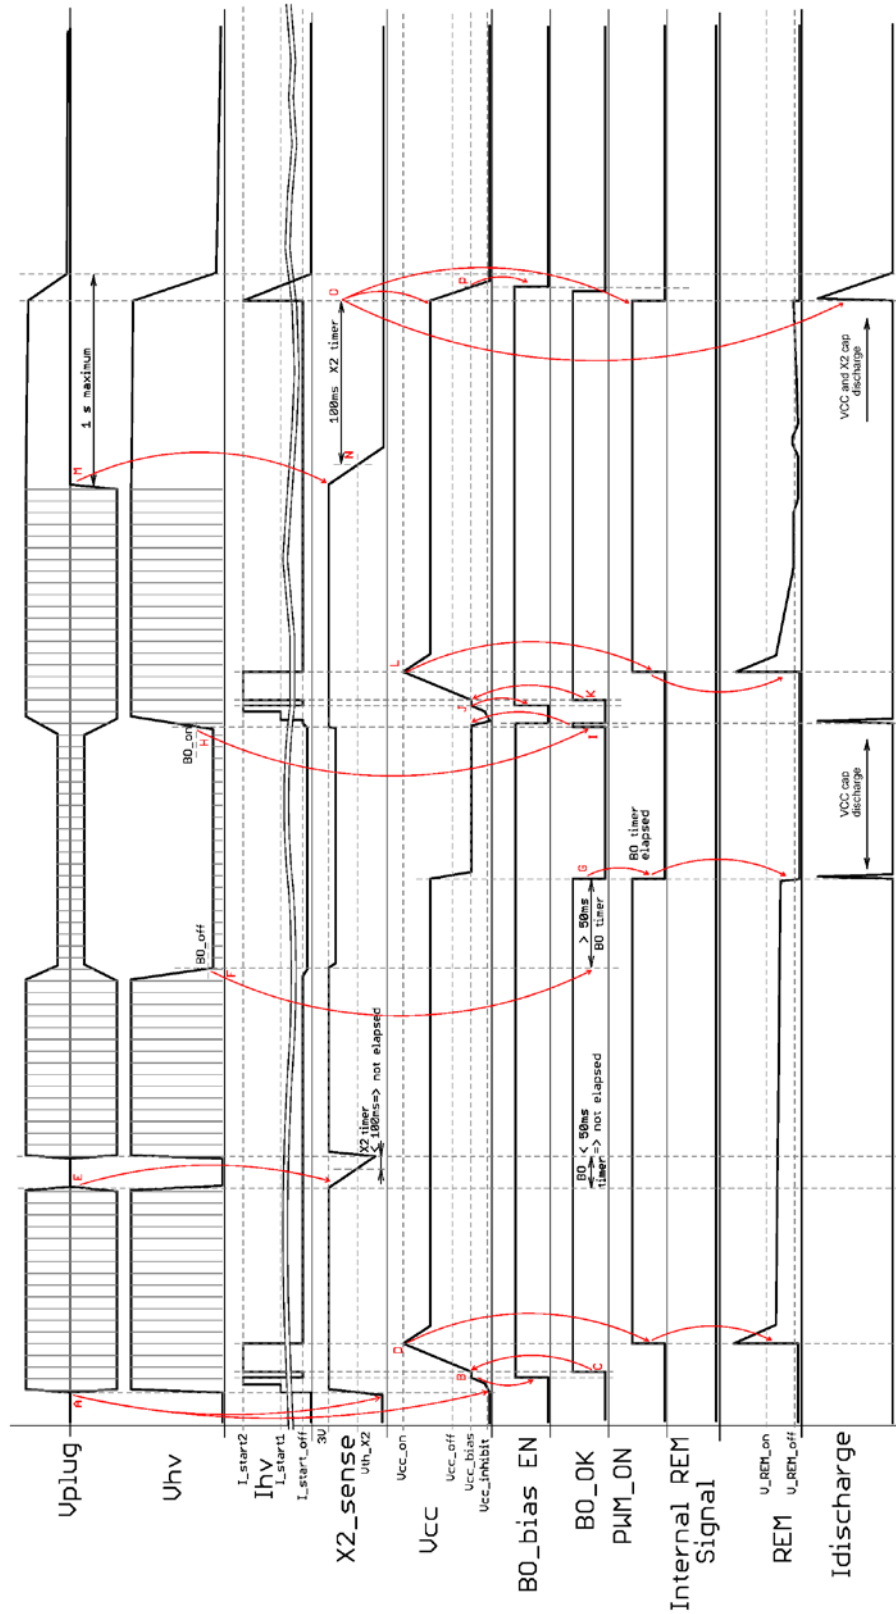

Figure 52. IC Operation Sequencing – Case 2 (Active OFF)
2. Application start, AC line dropout, low line off, BO restart, AC line off – Figure 52: